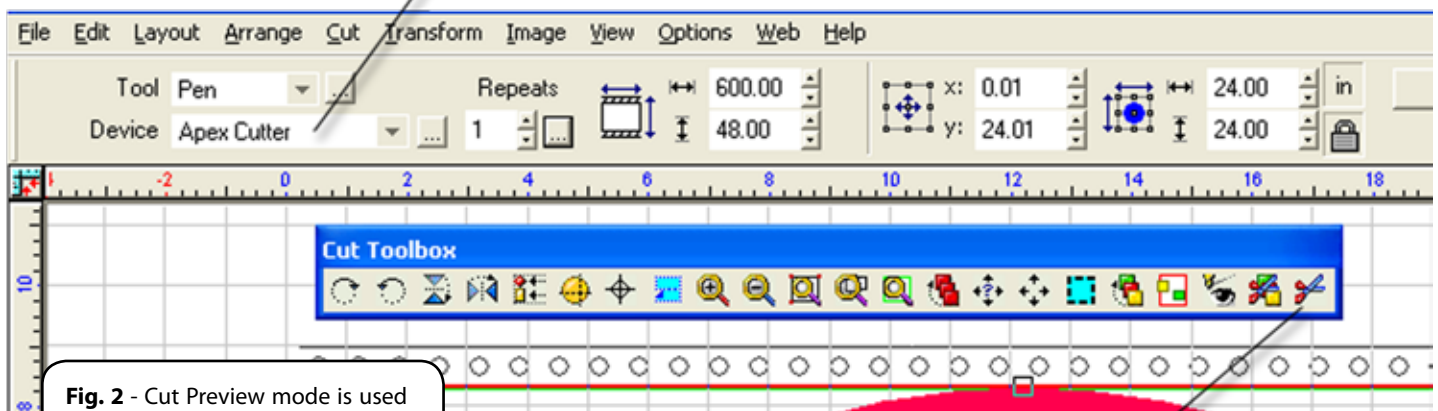

Fig. 2 - Cut Preview mode is used to preview your design as it will be cut on the material. Click the **Cut** button to send the cut data to the cutter.
17. In the SmartBar, confirm that the **Device** is the cutter that you had selected (Fig. 2).